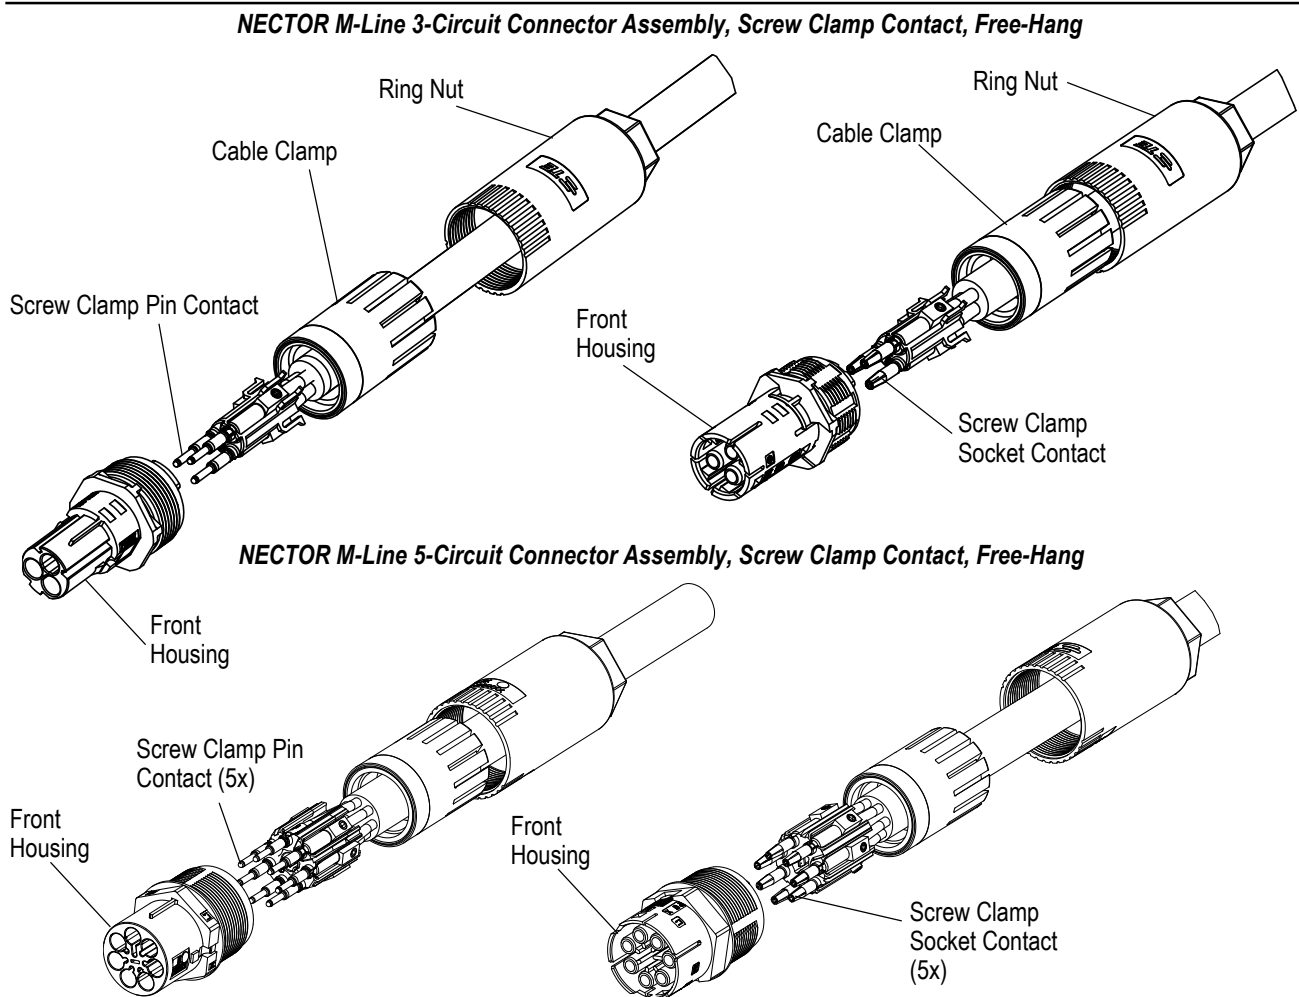

Figure 25
3. Place "ring nut" over cable jacket. (Orient as shown in Figure 25.)
4. Place “cable clamp” over cable jacket. (Orient as shown in Figure 25.)
7. After conductors are connected to screw clamp contacts complete final assembly (see Figure 25):